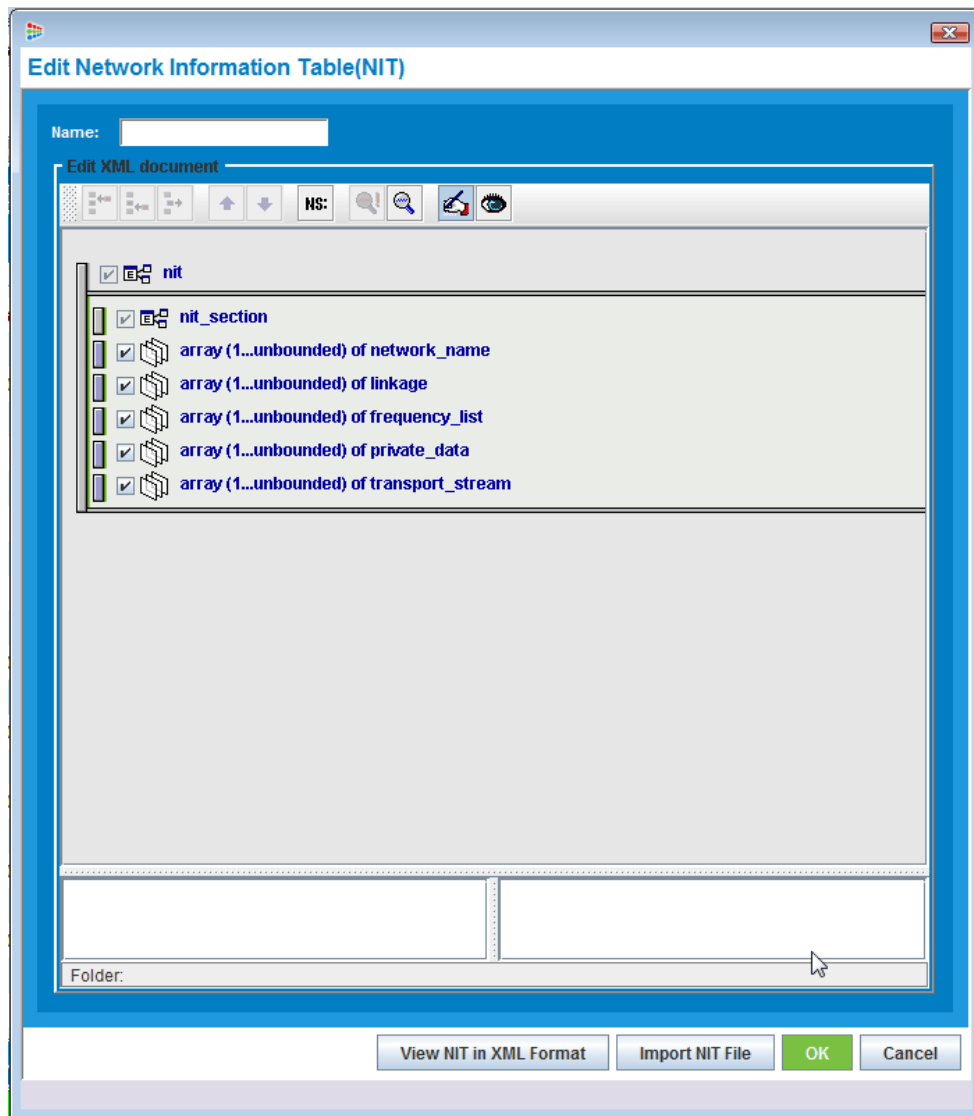

Figure 120. Using the Editing Feature
3. Highlight an existing table, and choose **Edit**. The window of Figure 120 appears.